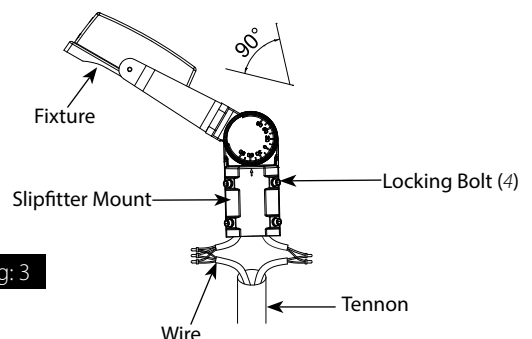

Fig: 3
1. Place the **Slipfitter** over the **Tenon** and secure the **Fixture** with the **Locking Bolts** (4) on the side of the **Slipfitter** as shown in **Fig. 3**.